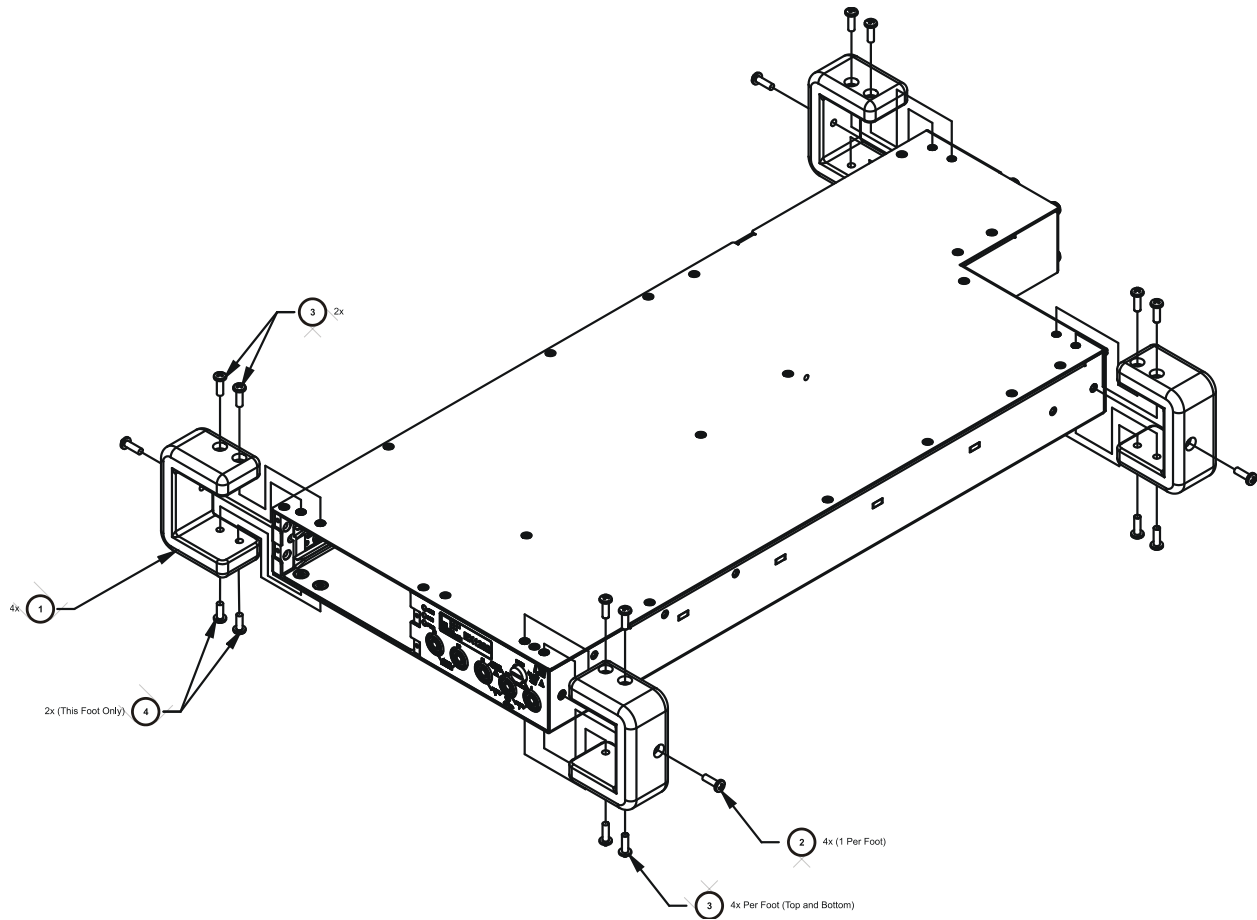

FIGURE 2-3: TABLETOP INSTALLATION DIAGRAM (EXPLODED FRONT VIEW)
- 2) Using Figure 2-3, locate the installation locations for each rubber foot.
- 3) Using the #2 Phillips screw driver, install the front left rubber feet using two (2) 6-32 x 7/16" pan head Phillips screws to secure the top and two (2) 6-32 x 3/8" pan head Phillips screws to secure the bottom of the foot. Use one (1) 6-32 x 1/2" pan head Phillips screw to secure side of this foot.
- 4) Using the #2 Phillips screw driver, install the four rubber feet using four (4) 6-32 x 7/16" pan head Phillips screws to secure the top and bottom and one (1) 6-32 x 1/2" pan head Phillips screw to secure side of each foot.